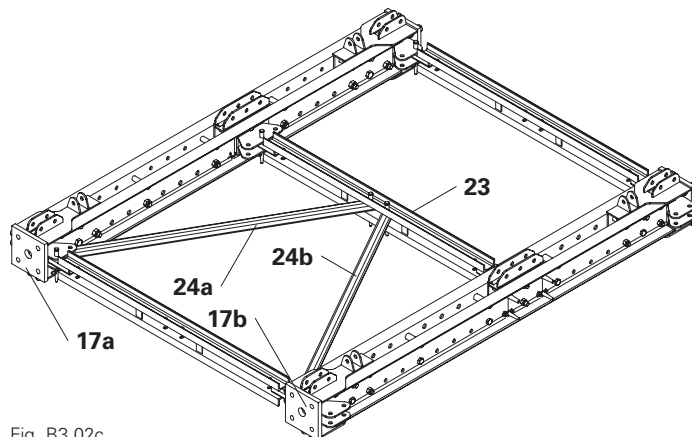

Fig. B3.02c
5. Secure both diagonal struts VST 200/150 (**24**)* to the horizontal ledgers VST 200 (**23**) using 1x fitting pin \varnothing 21 mm (**9**) respectively. (Fig. B3.02c)